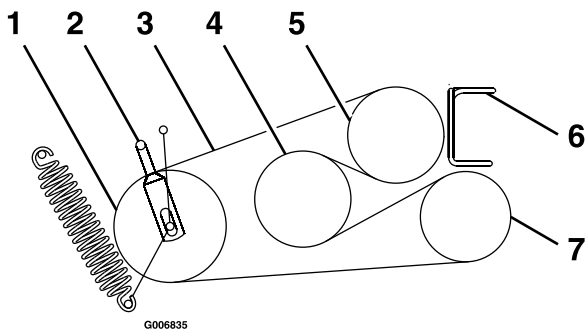

Figure 59
6. Loosen belt guides **A** and **B** (Figure 59).
8. Route the new belts onto the pulleys as shown in Figure 59.